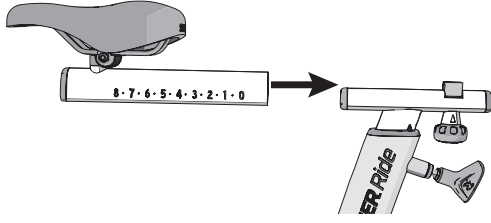

Figure 5
1. Slide the seat assembly onto the seat post (Figure 5).